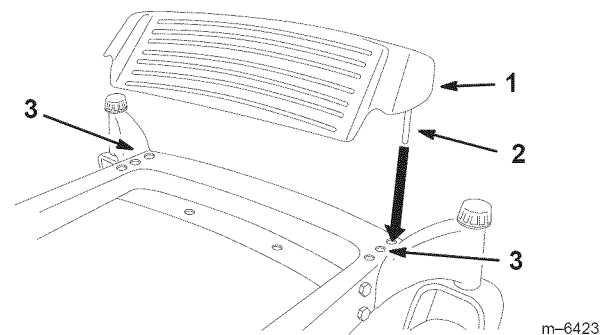

Figure 14
1. Lift up the footrest and place the rods in the same hole positions (Fig. 14).